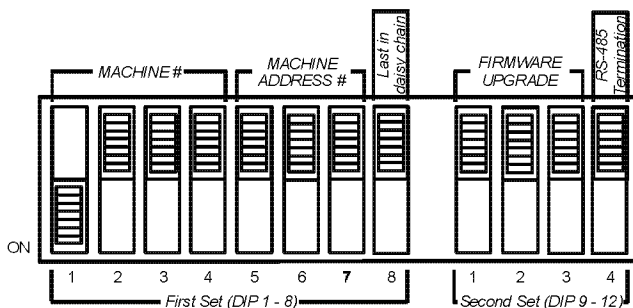

Figure 8: SETUP Dipswitches (Factory Default for Stand-Alone MACHINE # 1)
Configure the **VP-81xl**, **VP-161xl**, and/or **VP-321xl** unit by setting the 12 SETUP dipswitches (item 13 on the rear panel), as Figure 8 and Table 7 define: